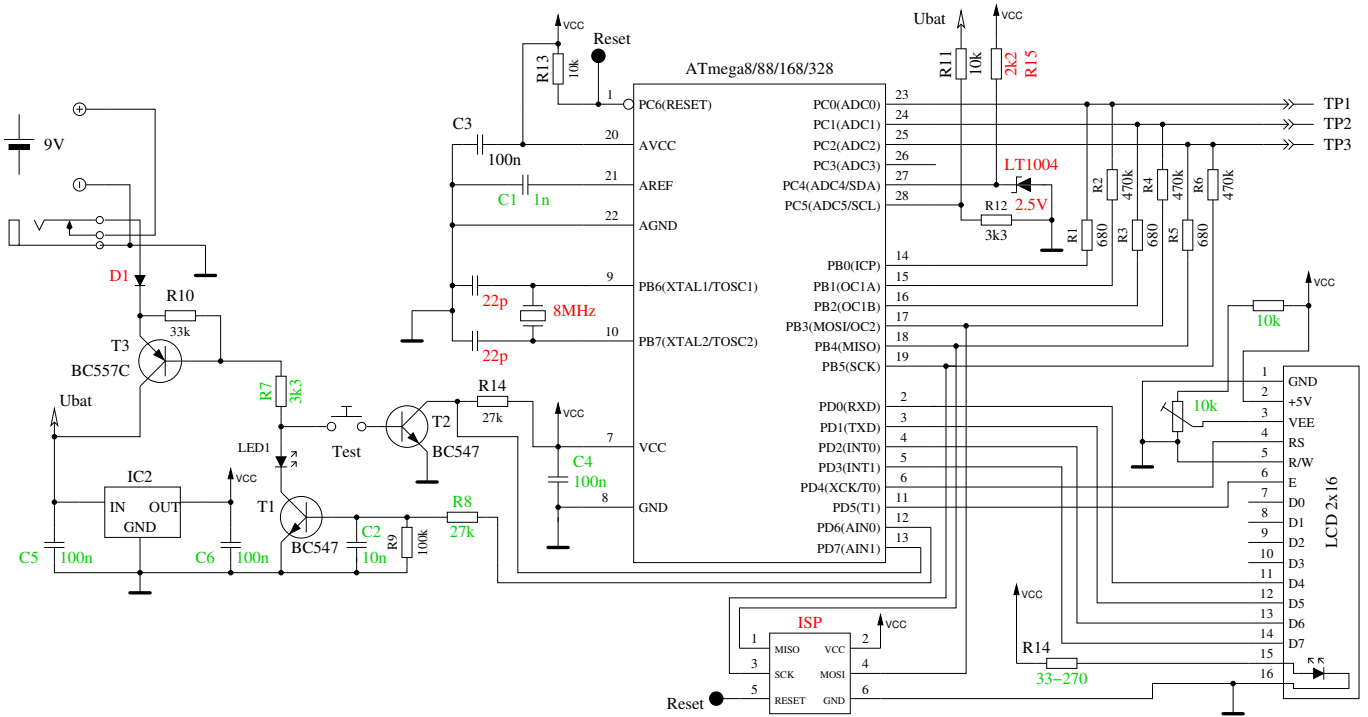

Figure 2.1: New circuit of TransistorTester
The circuit of the TransistorTester in figure 2.1 is based on the circuit of Markus F. released in Abb. 1 of AVR-Transistortester report [1]. Changed or moved parts are marked with green color, optional parts are marked with red color. Some changes are made because the electronical power switch make problems in some implementations. Therefore the resistor R7 is reduced to $3.3k\Omega$. The capacitor C2 is reduced to 10nF and R8 is moved so that the PD6 output does not try to switch the C2 capacitor directly. Additional blocking capacitors are added and should be placed near the power connection of the Atmega and near the Voltage regulator. Because the PD7 input and PC6 (RESET) are the only pins, where pull up resistors where needed, one extra $27k\Omega$ resistor is added to the PD7 (pin 13) input. With this modification the software can disable all internal pull up resistors of the ATmega. The additional crystal with its 22pF capacitors are optional added. The accuracy of a crystal has the benefit of more stable time measurement for getting the capacitor values. New software version can use a scale switch of the ADC. The speed of switching is reduced by the external capacitor C1 at the AREF (21) pin of the ATmega. To avoid slowing down the measurement speed more than necessary, the value of this capacitor should be reduced to 1nF. Removing of the capacitor C1 is also possible. For adapting the software to the actual circuit take a look to the Makefile options in the configuring chapter 4. Some different versions of R11 / R12 resistor combinations circulates in the internet. I have adapted my software to the original of Markus F. [1] with $10k\Omega$ and $3.3k\Omega$. The additional 2.5V precision voltage reference connected at pin PC4 (ADC4) can be used to check and calibrate the VCC voltage, but is not required. A optional ISP connector has been added to easier load new software versions to the tester.